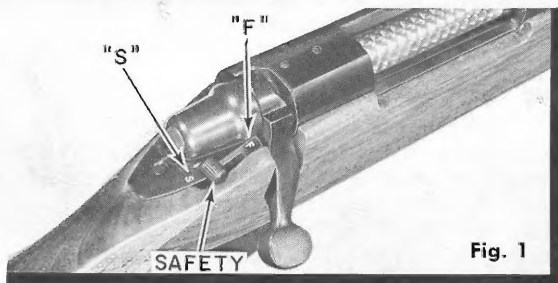

Fig. 1
**ON SAFE** (Fig. 1) — Rotate side lever safety at right rear of receiver to rear stop position marked "S" on receiver. Bolt handle will be locked down and trigger will not fire rifle.